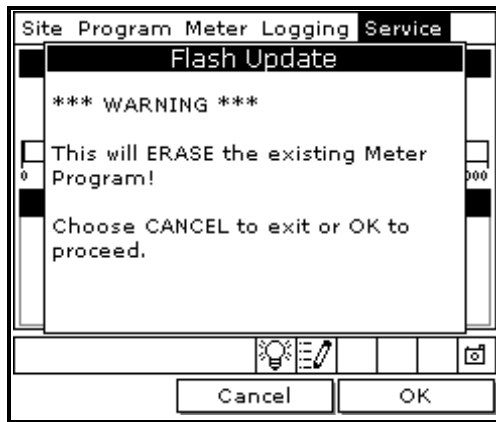

Figure 69: Flash Update Window
3. Use the arrow keys to scroll to **Flash Update** and press [ENTER]. The screen appears similar to Figure 69.